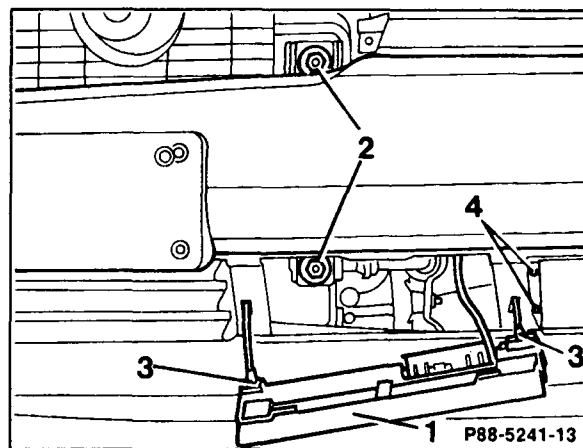

Figure 1
1. Open covers (1, Figure 1) and disengage retaining straps.
2. Disconnect outside temperature sensor from left cover. Remove nut (2, Figure 1) and washer.